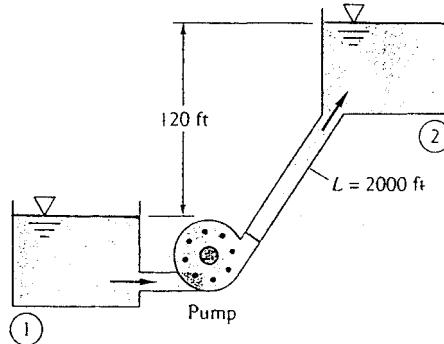

Fig. P6.62
**6.62** Water at 20°C is to be pumped through 2000 ft of pipe from reservoir 1 to 2 at a rate of 3 ft3/s, as shown in Fig. P6.62. If the pipe is cast iron of diameter 6 in and the pump is 75 percent efficient, what horsepower pump is needed?